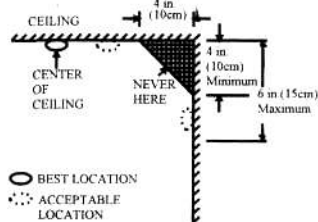

Figure 4: RECOMMENDED BEST AND ACCEPTABLE LOCATIONS TO MOUNT SMOKE DETECTORS
- Install smoke detectors as close to the center of the ceiling as possible. If this is not practical, put the detector on the ceiling, no closer than 4 inches (10 cm) from any wall or corner, as shown in Figure 4.
- If ceiling mounting is not possible and wall mounting is permitted by your local and state codes, put wall-mounted detectors between 4 and 6 inches (10 ~ 15 cm) from the ceiling, also see Figure 4.
- Dead air spaces are often at the top of a peaked roof, or in the corners between ceilings and walls. Dead air may prevent smoke from reaching a detector. See Figures 4 and 5 for recommended mounting locations.